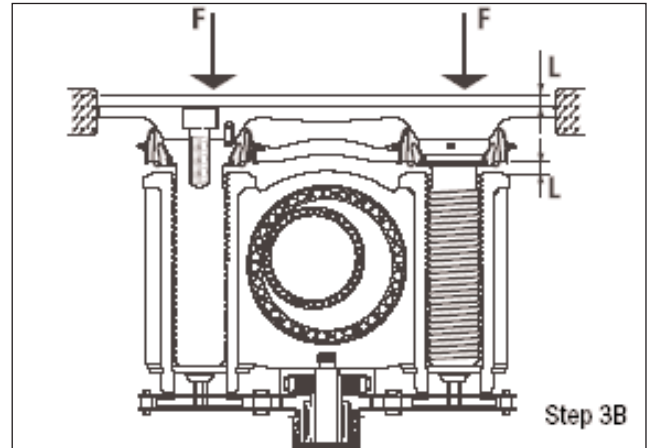

Fig 1.8
k) Sleeve rotation unscrews the piston. This increases the length 'L' between the piston and the sleeve which reduces the stroke towards the rotor to bring the pads into contact. (Fig. 1.8).